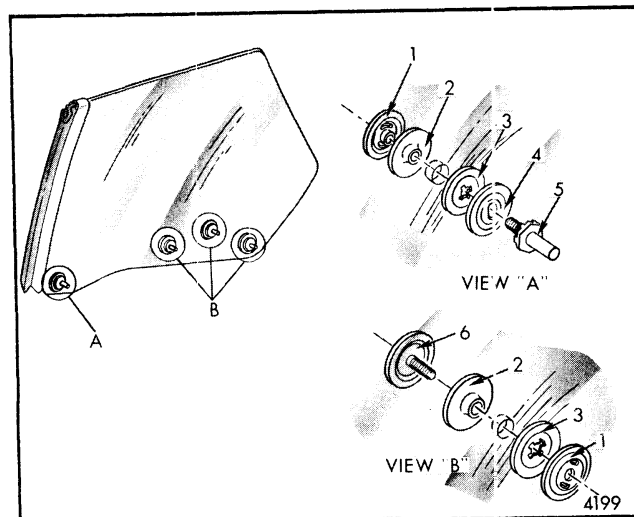

Fig. 5-131-Rear Door Window Assembly - "E and C" Four Door Hardtop Styles, Except 6CB69 Styles
Figure 5-131 is an exploded view of the window assembly and identifies the various components and their assembly sequence.
**NOTE:** When replacing window assembly, install new glass spacers and washers ("2" and "3", Fig. 5-131) and torque glass component attaching nuts to 72 inch pounds (6 foot pounds).